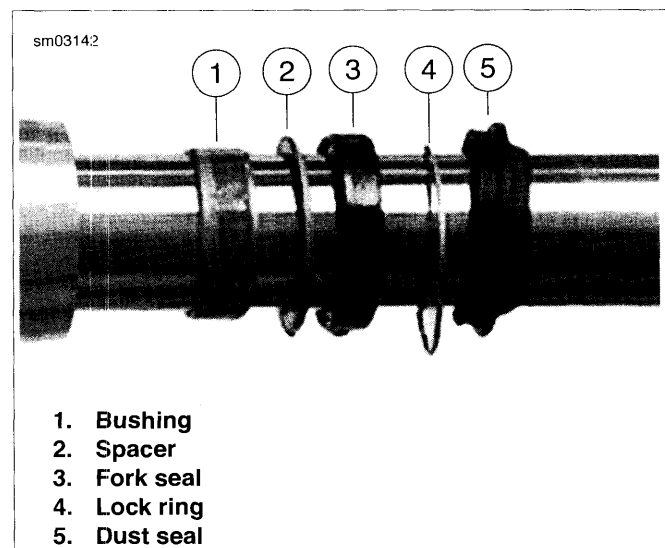

Figure 2-152. Seal Components
5. See Figure 2-152. Once fork tube and slider are separated, remove dust seal, lock ring, fork seal, spacer, bushing and chrome dust cover (not shown) from fork slider.